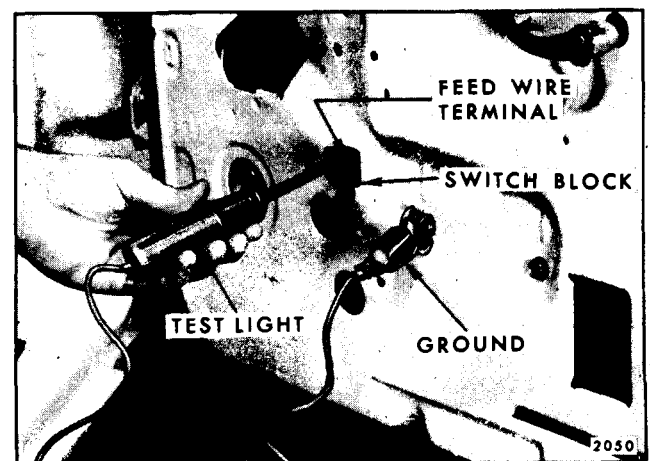

Fig. 15-7-Checking Feed Circuit
1. Connect one test light lead to feed terminal of switch block and ground other tester lead to body metal (Fig. 15-7).